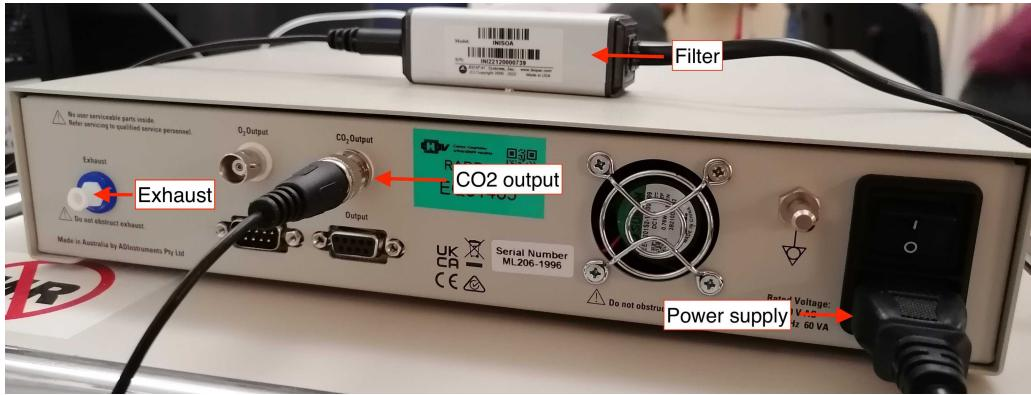

Figure 2: CO₂ cable and Biopac filter, back panel of the ML206 Gas Analyzer, ADINSTRUMENTS^[4]
3. Connect the *BNC-BNC cable* to the INISOA BIOPAC Systems Inc.[1] filter (Fig. 2). This step prevents the noise to go back from Biopac^[2] to the gas analyzer.